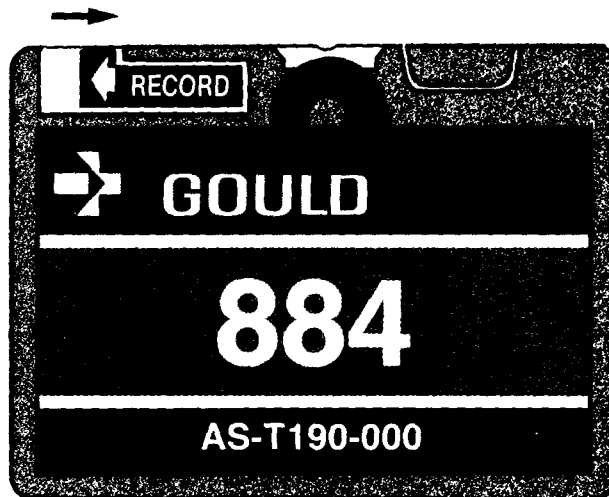

Figure 3-2. "Write Protected" Tape
6. Remove the tape from the tape drive and slide the "record" tab all the way to the right. This puts the tape in a "write protected" state; nothing can be written over the existing data. You may also remove the tab and replace it at a later time. See Figure 3-2.